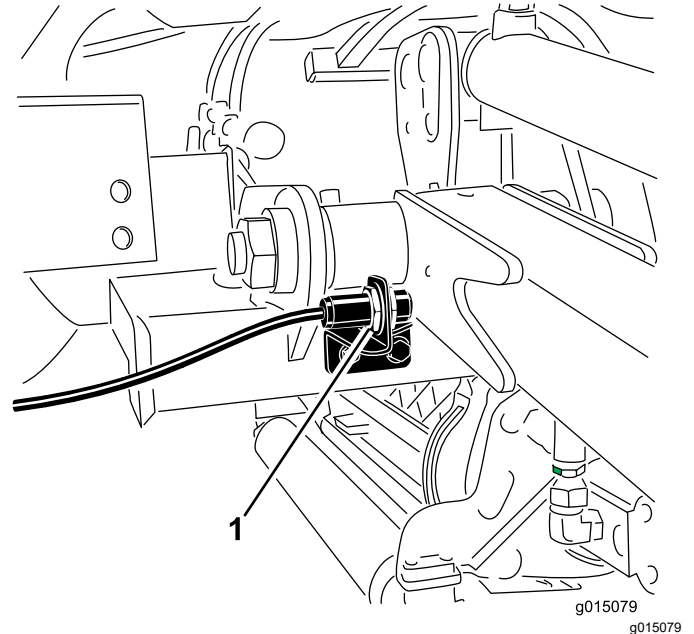

Figure 73
2. The lift-arm switch is located behind the front right lift arm (Figure 73).
3. Loosen the switch mounting screws (Figure 73) and move the switch up to increase the lift-arm turnaround height or move the switch down to decrease the lift-arm turnaround height.